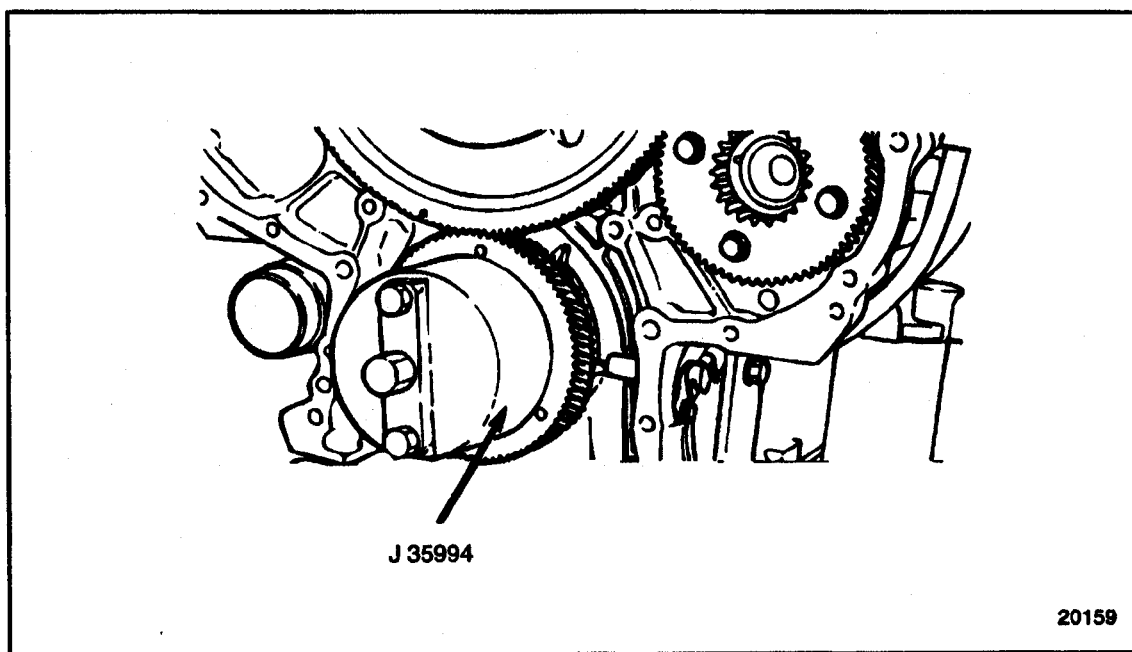

Figure 1-191 Crankshaft Protector Installation
11. Install the crankshaft protector, J 35994, to the oil seal contact area of the crankshaft. This will help to protect the crankshaft seal surface when removing the bull gear and camshaft idler gear assembly. See Figure 1-191.